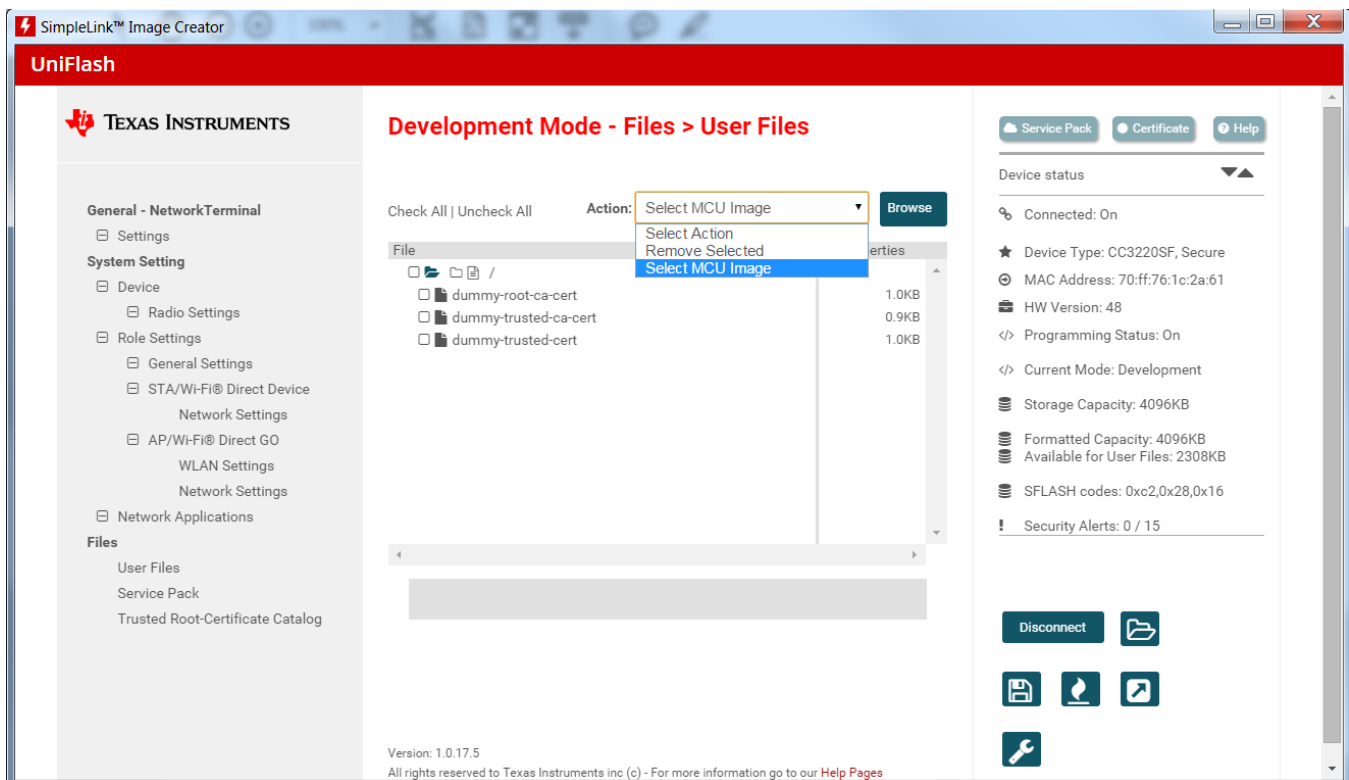

Figure 3-13. Select MCU Image
5. Select MCU Image from the drop-down menu, as shown in Figure 3-13.